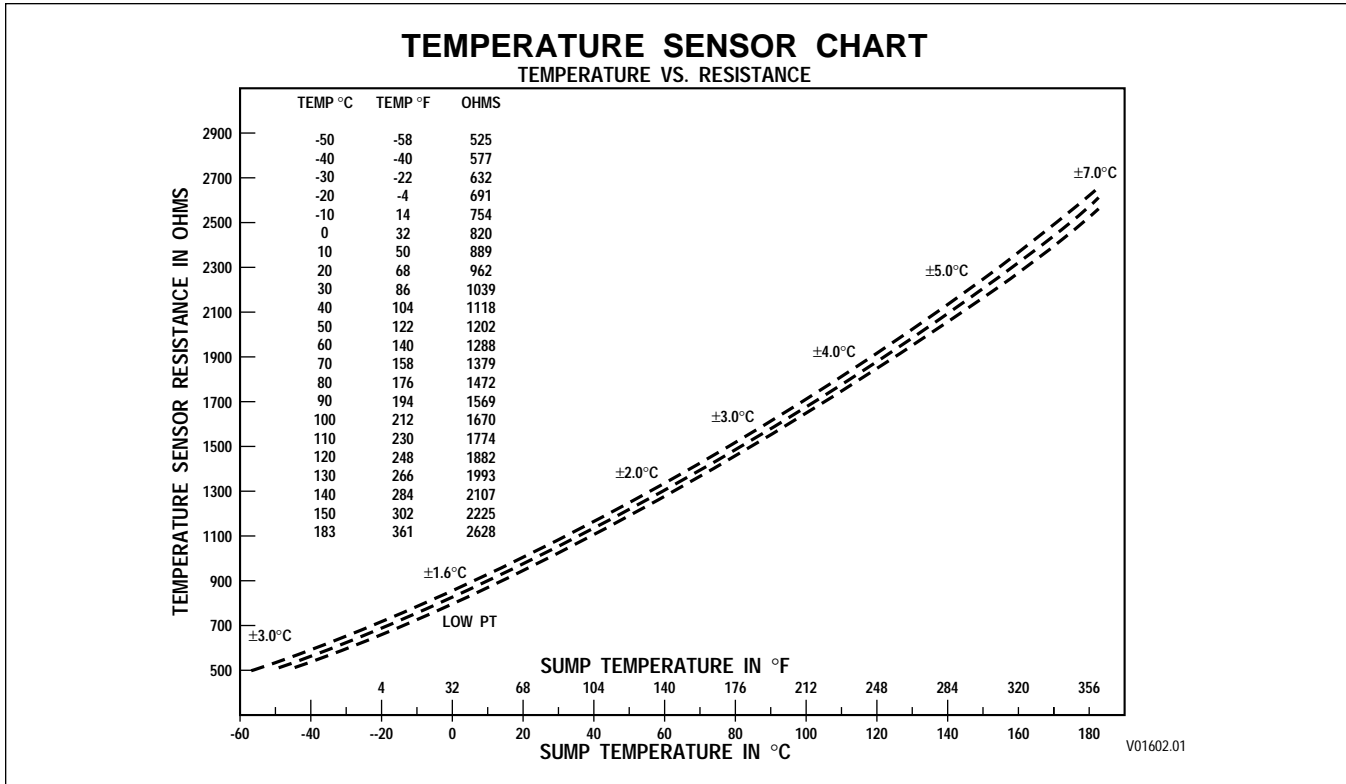

Figure 6–21. Temperature Sensor Chart (Sensors Prior to TID 2)
If the validity of the hot fluid diagnosis is in question, temperature can be checked by using a temperature gauge at the retarder-out port or by reading retarder temperature with the Pro-Link® diagnostic tool. Another method of checking retarder temperature is to remove the “T” connector at the ECU and measure resistance (Ohms) between terminals T28 and T25. Compare the resistance value to the value in Figure 6–21 to see if the result is within the expected operating range. For TID 2 thermistors, see Appendix Q for resistance versus temperature table.
**CODE 62 XX — RETARDER TEMPERATURE SENSOR** (*Figure 6–22*)
1. Check the retarder temperature or engine coolant temperature with a DDR. If a DDR is not available, use the shift selector display to determine if the code is active (cycle the ignition on and off at least once since the code was logged to clear the code’s active indicator). If a condition that is unreasonable for the current conditions exists, go to Step (3).
2. If Step (1) reveals that the extreme temperature indication is no longer present, the temperature limit could have been reached due to operational or ambient temperature extremes. Proceed cautiously as it is unlikely there is a sensor hardware fault.
3. Remove the connector at the ECU. Measure resistance between harness terminals T25 and T28 or between harness terminals V9 and V24. Compare resistance value to chart (see Figure 6–21) to see if reading is within expected operating range.